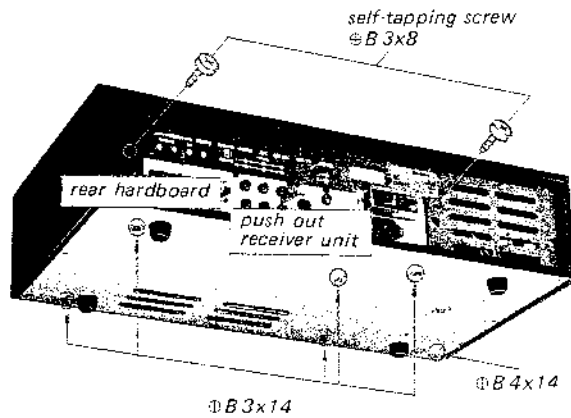

Fig. 2-2. Receiver unit removal
1. Remove the two screws ( $\text{Ø}B3 \times 8$ ) from the rear hardboard as shown in Fig. 2-2, and then tilt it toward you and down. This frees the rear hardboard.
3. Remove the five screws ( $\text{Ø}B3 \times 14$ ) and one screw ( $\text{Ø}B4 \times 14$ ) from the bottom as shown in Fig. 2-2.
4. Remove the receiver unit out of the wooden case by pushing it out in the direction shown by the arrow in Fig. 2-2. This frees the receiver unit.